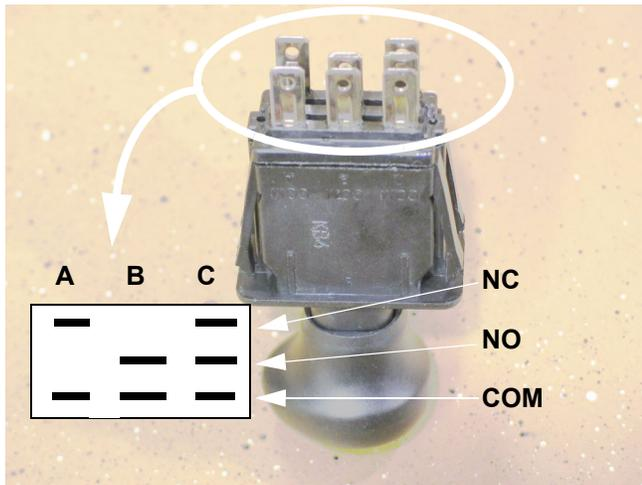

Figure 28.5
28.5. The PTO switch has three sets of contacts: A, B, & C. See Figure 28.5.